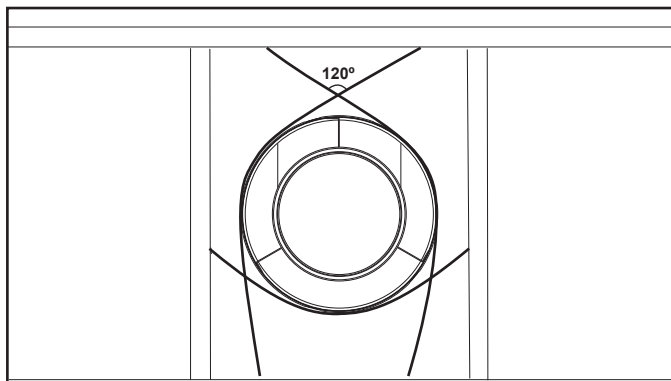

Figure 10.4 Securing Vertical Pipe Sections
- Vent supports or plumbers strap (spaced 120° apart) may be used to support vent sections. See Figures 10.4 and 10.5.